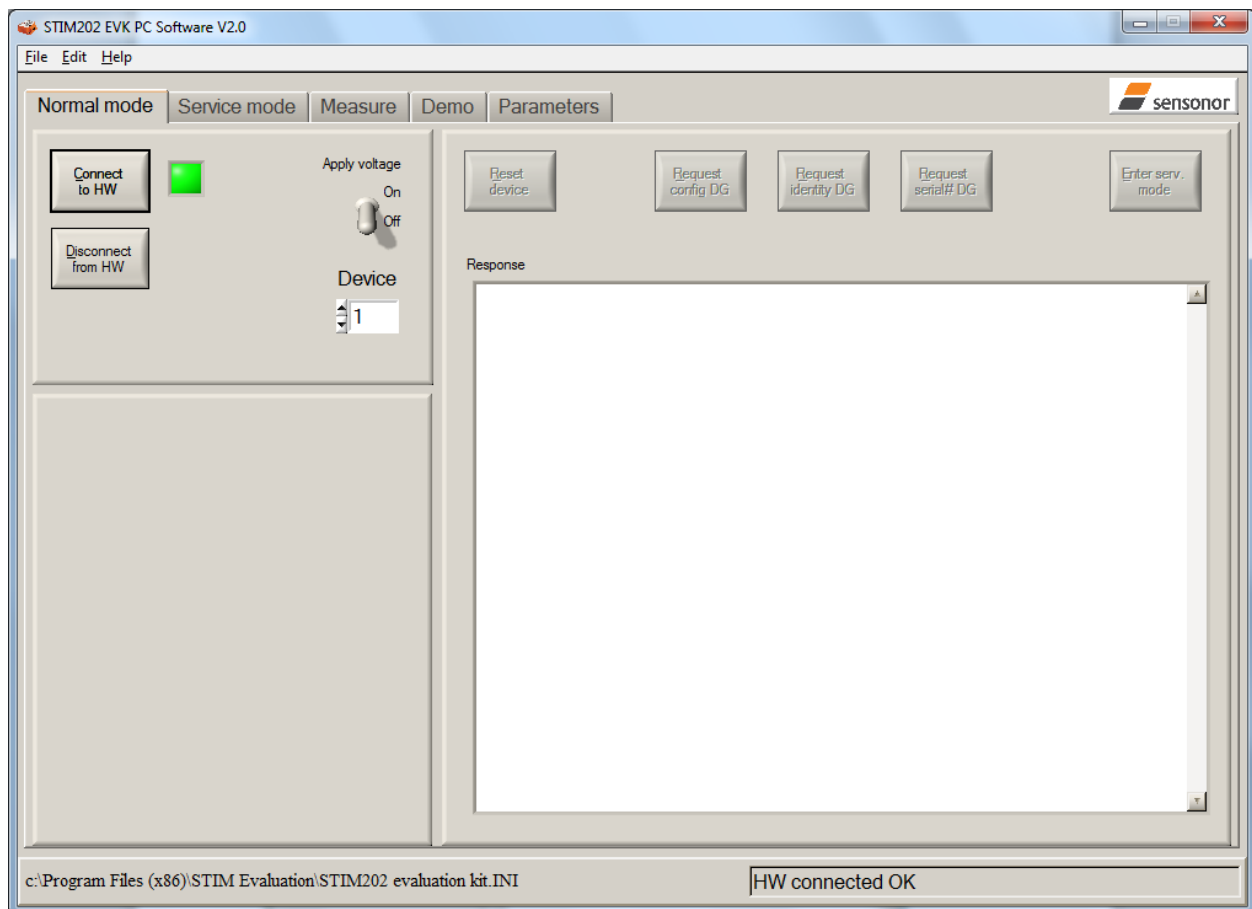

Figure 23: Showing 'Normal Mode' panel after first hardware connection. The green LED and the text in the lower right corner confirms hardware connection is OK
- Now, establish the first connection to STIM202 by clicking the 'Connect to HW' button. Verify that a **green** light appears, and that the message 'Hardware connected OK' is shown in the lower right corner of the panel. See Figure 23 for an example of how the Normal Mode panel looks like directly after such a first successful hardware connection